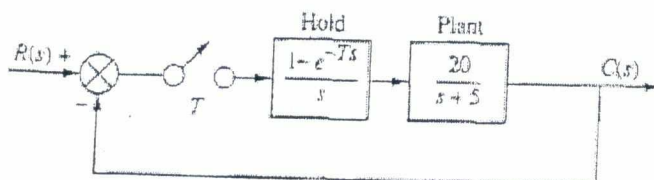

Figure 3 Q 4(a)
4. (a) Determine the range of sampling interval,  $T$  that will make the system shown in Figure 3 stable. 10